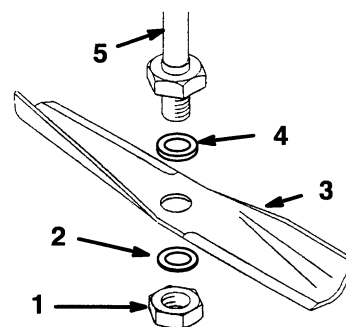

Figure 26
1. Install the washer, blade, flat washer, and the blade nut (Fig. 26).